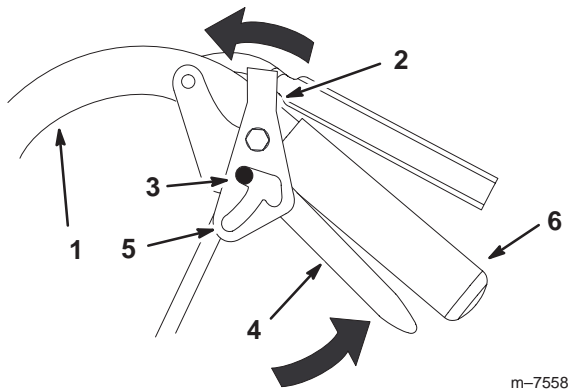

Figure 17
1. Squeeze the drive levers back to the grip (Fig. 17).
2. Place thumbs on the upper part of the locks and rotate them forward (Fig. 17).